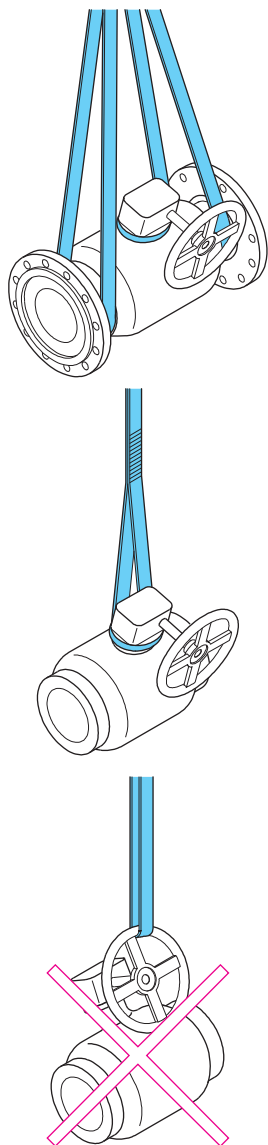

Figure 2. Lifting the valve \leq DN 500 reduced bore.
Use lifting ropes when lifting the large size valves. It is forbidden to lift the valve by its actuator or stem (see Figure 2).
- The valve or valve assembly must not be lifted from the actuator. If the valve is equipped with lifting lugs, use them (see Figure 2). Dropping or incorrect lifting of the valve can result in personal injury or equipment damage.
- Use one of the allowed lifting methods shown in Figure 2.